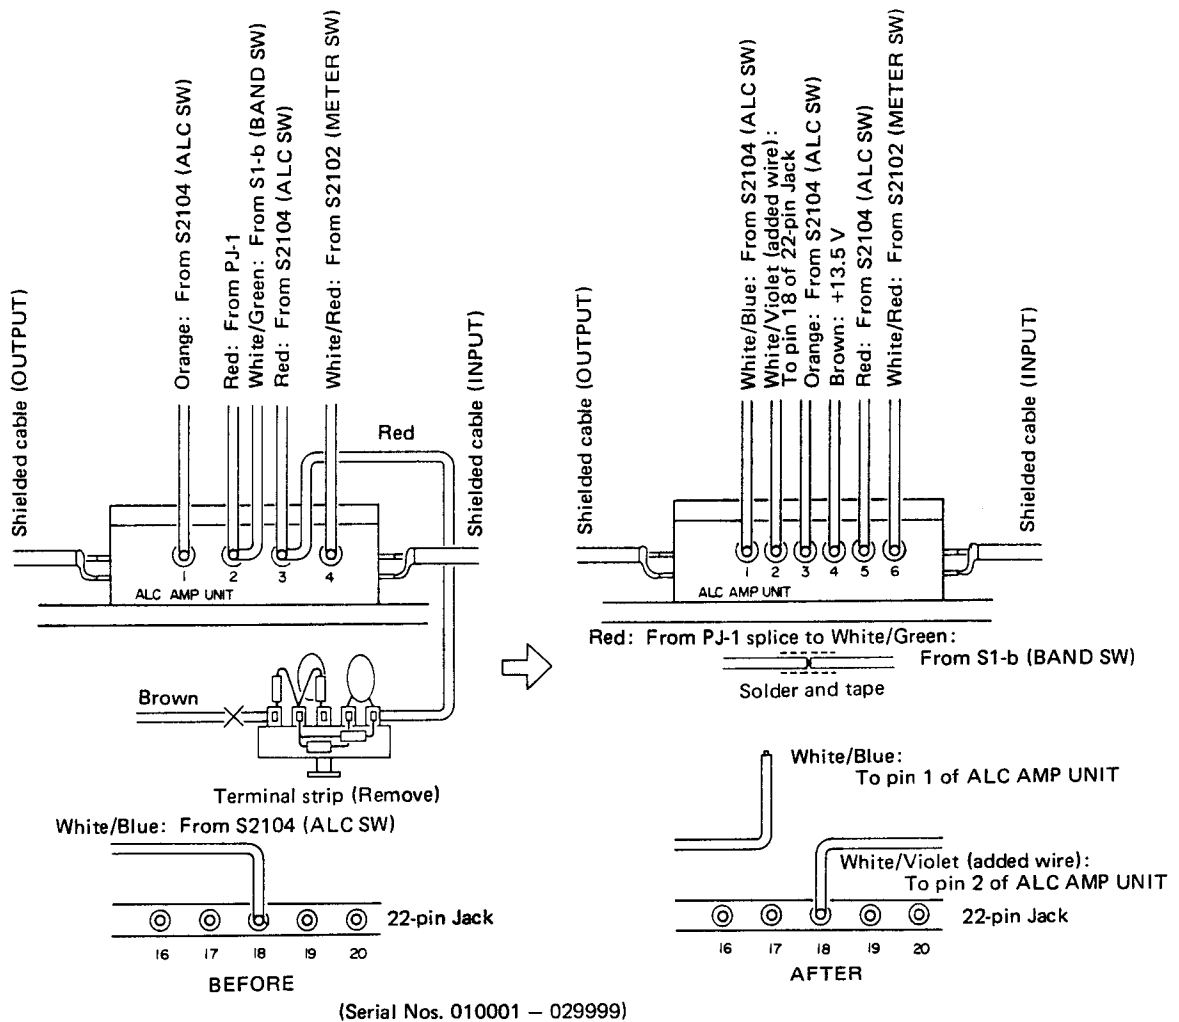

Figure 5
2. Install 1SS53 diodes (white band) on the solder side of the Local Unit at the locations shown in Figure 5, making sure that the banded ends of the diodes are aligned as indicated. Install D_D for 28.0–28.5 MHz, or D_E for 28.5–29.0 MHz (DO NOT INSTALL BOTH). Then perform step 5 of the previous modification procedure.
- c. Reconnect the wires to the new Unit as shown in Figure 5 and described below: